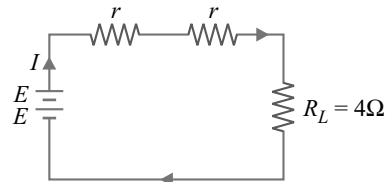

Fig. 1.23
**Example 1.7.** Two identical cells connected in series deliver a maximum power of 1 W to a load resistance of  $4 \Omega$  as shown in Fig. 1.23. What is the internal resistance and e.m.f. of each cell?